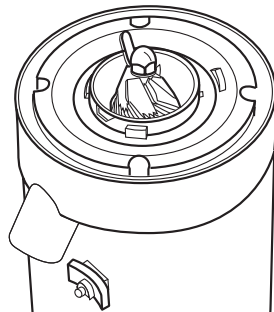

Figure 10
6. Clean the bottom burr using the burr-cleaning brush, see figure 10.